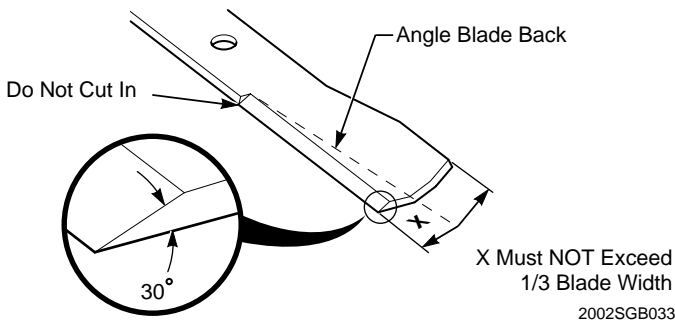

Figure 7-9 Blade Sharpening
DO NOT sharpen the blades beyond 1/3 of the width of the blade. See Figure 7-9, Page 34.
1. Sharpen the cutting edge at the same bevel as the original. See Figure 7-9, Page 34. Sharpen only the top of the cutting edge to maintain sharpness.